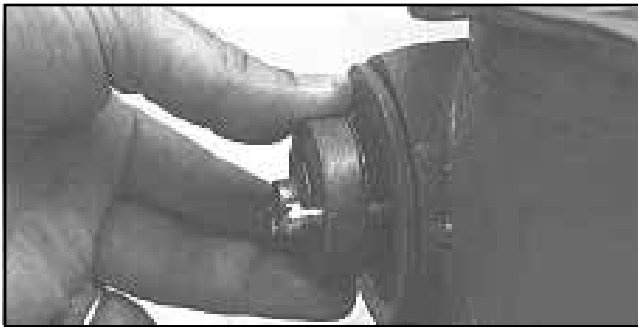

Figure 53
2. Unscrew the two screws securing adjusting stem assembly to meter cover and remove assembly, Figure 53.